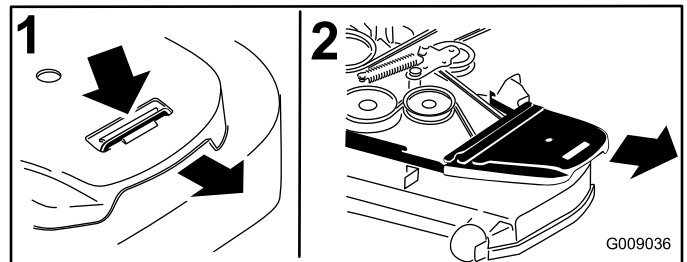

Figure 74
- Remove the belt covers (Figure 74).